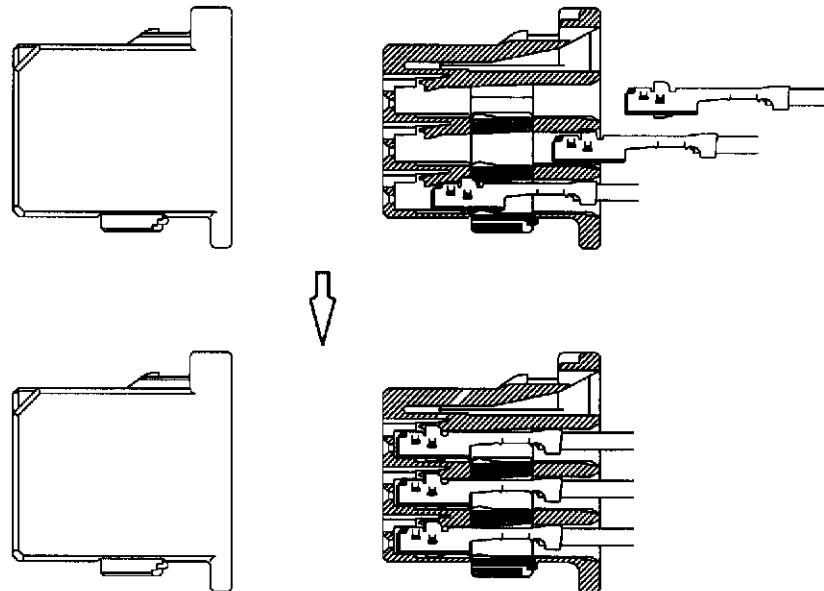

Fig.10
(4) Insert the contacts into the housing with same direction as shown in Fig.10. The insertion is finished when you hear click sound and the contact stops.